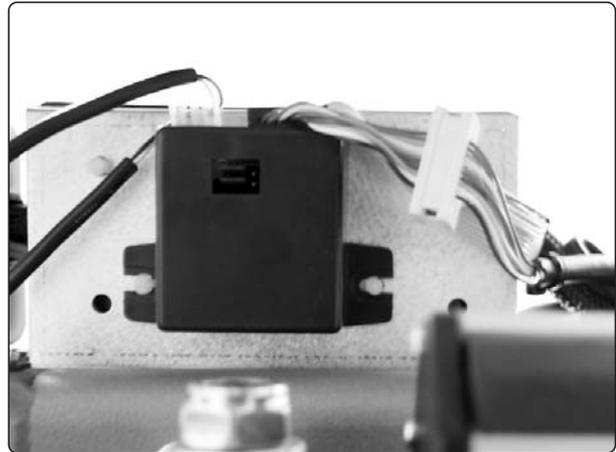

Fig. 65. The relay box viewed from underneath the seat.
5. The max speed sensor is connected to the seat function board. The leg rest sensor is connected to the relay box. Follow the cabling to the seat function board or relay box and cut the wiring bundle tie holding the cabling together. Take note of the location of the wiring bundle tie for purposes of later remounting. See Figs. 65 and 66.